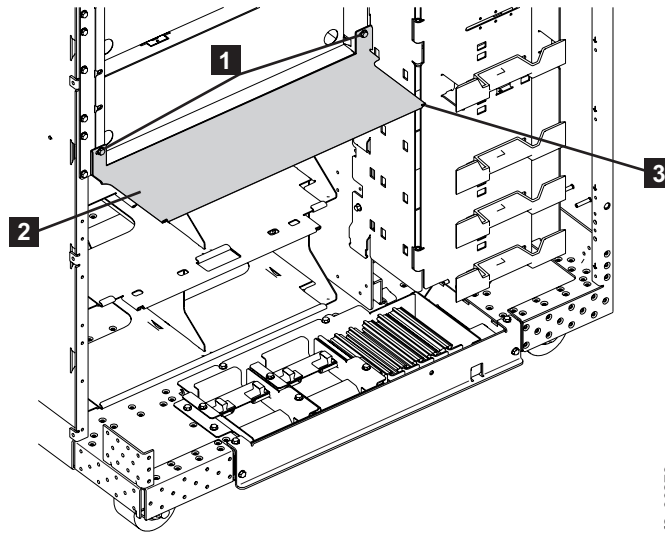

Figure 17. Air baffle
2. Remove the two screws **1** and take out the Air baffle **2** as shown in Figure 17 on page 23. Retain the parts for later reinstallation.